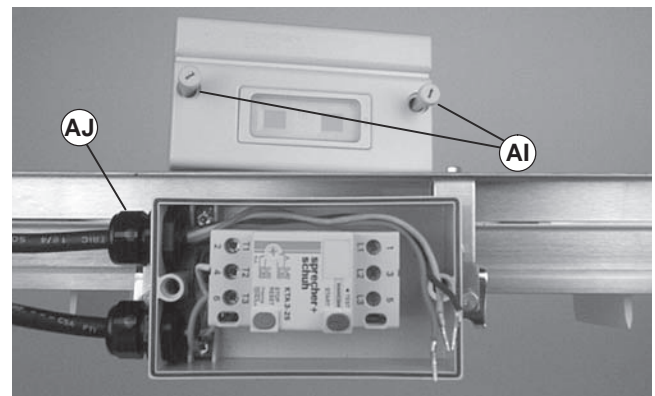

Figure 18
1. Loosen cover screws (Figure 18, item AI). Remove cover.
- Install cover and tighten screws (Figure 18, item AI).
- Replace starter cover and tighten screws (Figure 18, item AI).